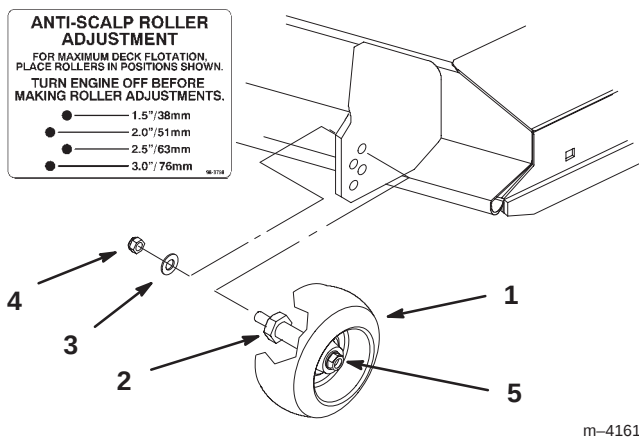

Figure 11
Note: Press on lift assist pedal when raising deck. This will help in lifting the deck (Fig. 11).
2. After adjusting height-of-cut remove flange nut and spring disk while holding stud with wrench (Fig. 11).
- Note:** Do not remove the wheel nut and washer (Fig. 11).
3. Select hole so gage wheel is positioned to the nearest corresponding height-of-cut desired (Fig. 11).
4. Reinstall the flange nut and spring disk. Torque to 40–45 ft-lbs. (54.2–61.0 N•m) (Fig. 11).